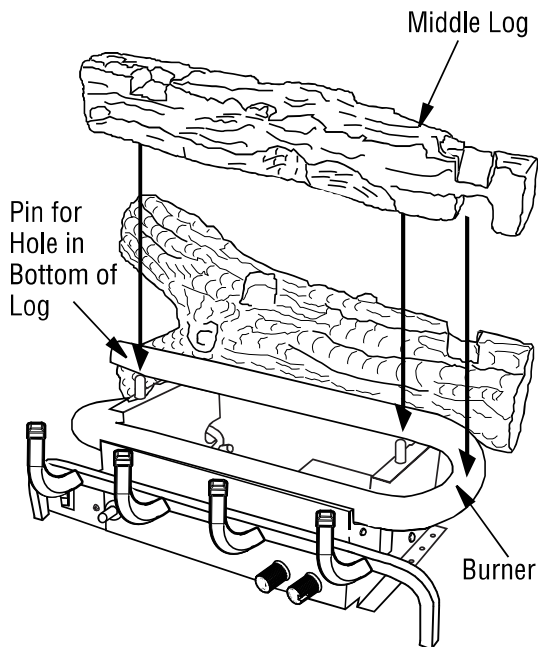

Figure 22 - Installing Middle Log
- Place the middle log on base. Holes in bottom of log must seat over pins on base as shown in **Figure 22**.